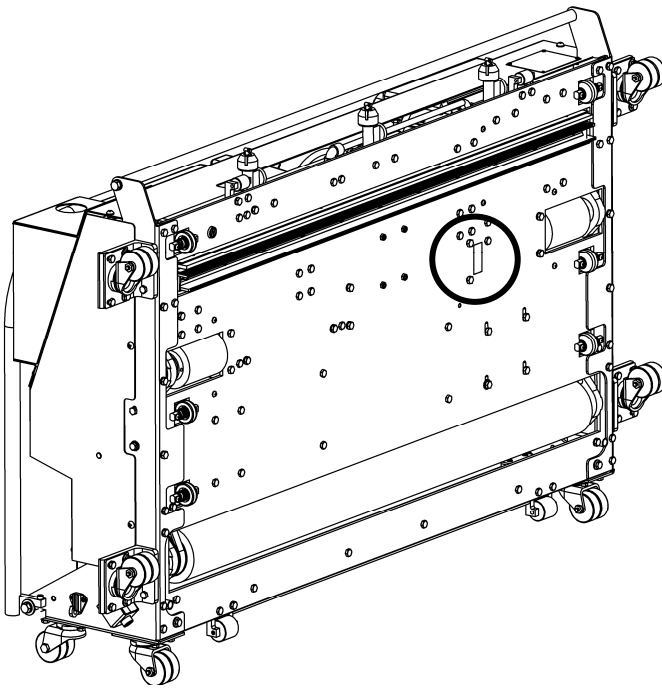

Figure 3-12
1. Locate the drive chain opening on the base plate, as shown in Figure 3-12.